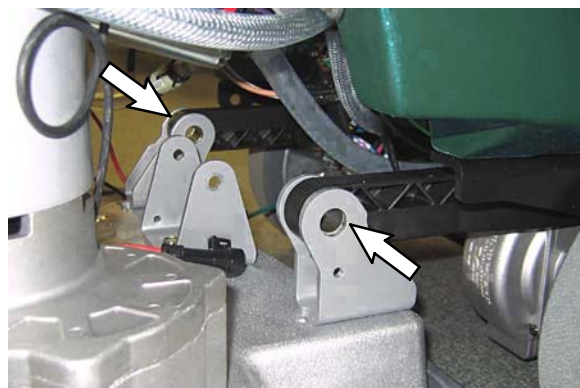

Fig. 2
2. Align the two lift arms with the mounting brackets (Figure 2). DO NOT connect the lift arms at this time.